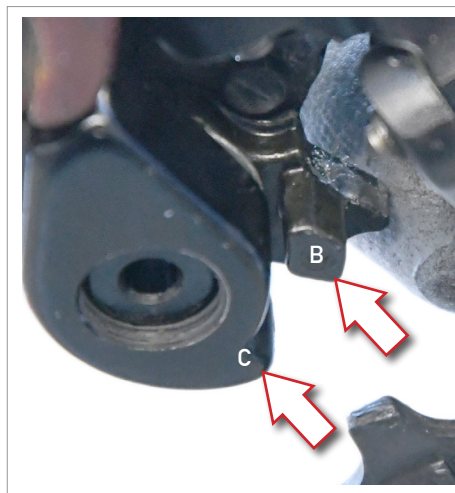
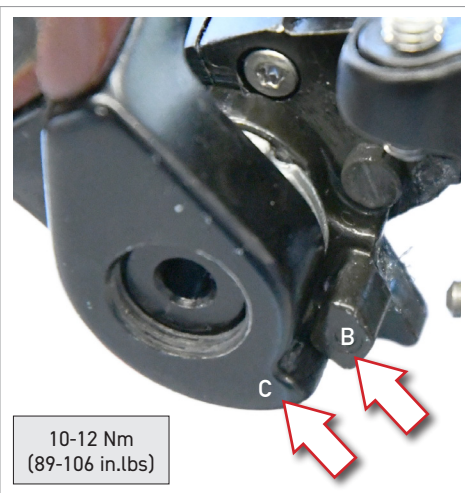

Fig.5
Fig.6
• During assembly, ensure that the rear derailleur tooth (B - Fig.5) is resting correctly on the tooth in the drop-out (C - Fig. 6).